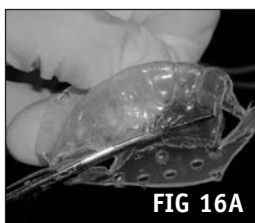

FIG 16A
4. Cut straight across from canine to canine. Approximately 1mm on the gingival of the lingual and 2-3mm on the gingival of the labial (Figs. 16a & 16b).